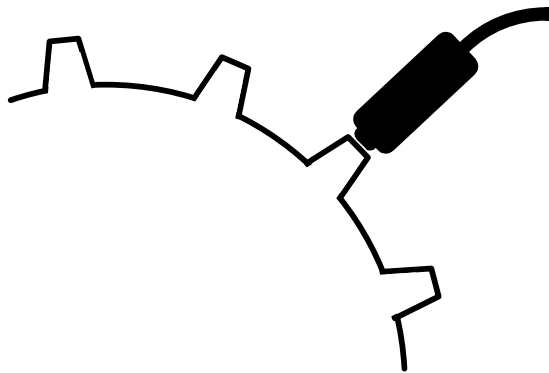
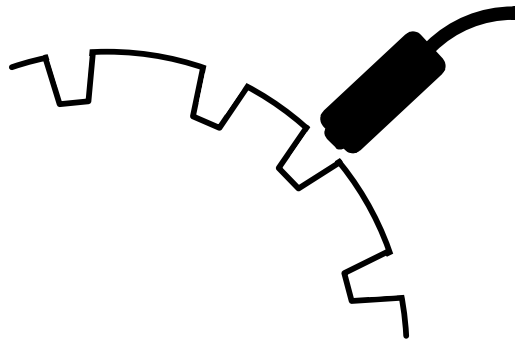
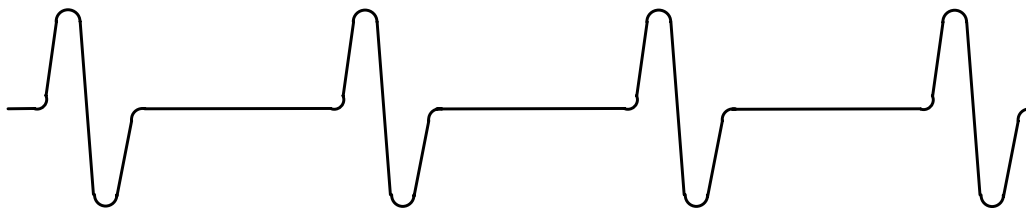
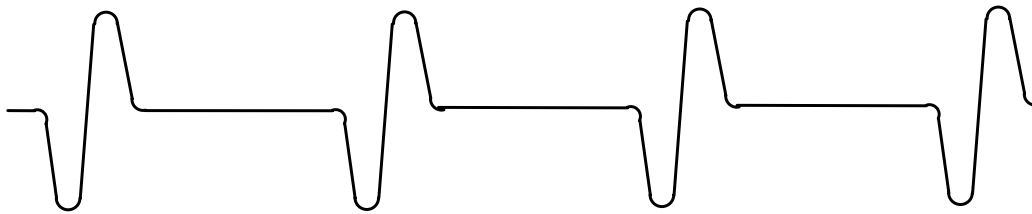

Figure 2. Positive tooth trigger wheel
Figure 3. Negative tooth trigger wheel
Figure 4. Correct signal polarity for VR input circuit
Figure 5. Incorrect signal polarity for VR input circuit
The VR Hall module provides up to six identical VR sensor inputs. A Variable Reluctance (VR) sensor input is a standard low cost automotive speed sensing input. It is an electro-magnetic sensing device containing a winding of wire around a permanent magnetic core. It relies on the movement of ferrous material (steel teeth) past the tip of the sensor to change the magnetic flux of the sensor. This creates a voltage pulse across the leads of the sensor's wire coil. Figures 4 and 5 below show a typical VR signal with respect to toothed wheels, as shown in figures 2 and 3. The VR signal will go positive as a tooth approaches the sensor tip. The signal will then rapidly swing back through zero precisely at the center of the tooth. As the tooth moves away from the sensor tip the voltage will continue in the negative direction and then return to zero.
Each VR sensor input requires two connections. The VR Hall module pins labeled VR1 thru VR6 are the positive sensor inputs. The negative sensor inputs must be connected to GND pins on the module. The polarity of the sensor connection to the module is critical. The leads of the sensor should be connected such that the positive input of the VR circuit sees the waveform shown in Figure 4. The waveform shown Figure 5 is incorrect, and the VR circuit will not properly respond to this waveform. The rapid zero crossing of the VR signal must be in the negative direction.
The polarity of the physical tooth or gap on the trigger wheel will contribute to the polarity of the voltage pulse from the sensor. Figure 2 demonstrates a positive physical tooth polarity and Figure 3 demonstrates a negative physical tooth polarity. Assuming the lead polarity of a sensor remained the same, one of the configurations would generate the waveform shown in Figure 4, while the other configuration would generate the waveform shown in Figure 5.